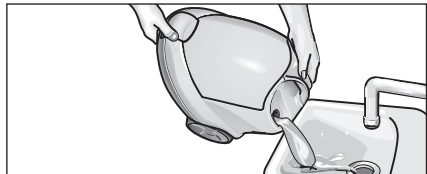

Figure 12: Rinsing the boiler
- Fill the boiler with water and shake it vigorously. This will loose any limescale that has built up on the bottom of the boiler. Tilt the appliance towards the edge with the funnel inlet and pour the water out (see Figure 12).
- Make sure that no water is left in the boiler (see Figure 12).